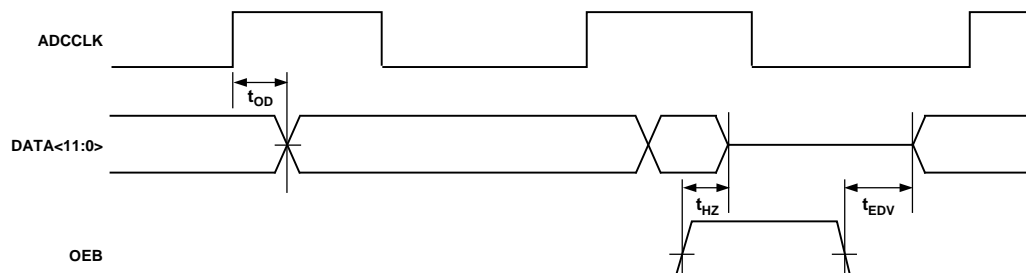

Figure 11. Digital Output Timing
**DOUT<n:0>**—The DOUT data bus is bidirectional. CMOS compatible digital data is available as an output on the DOUT bus. Data is coded in straight binary format. When CSB and either WRB or RDB are applied to the AD9807, the DOUT data bus becomes an input/output port for the register data, shown as MPU<7:0>. The timing and latency for the DOUT data bus is given in Figures 11 and 12.